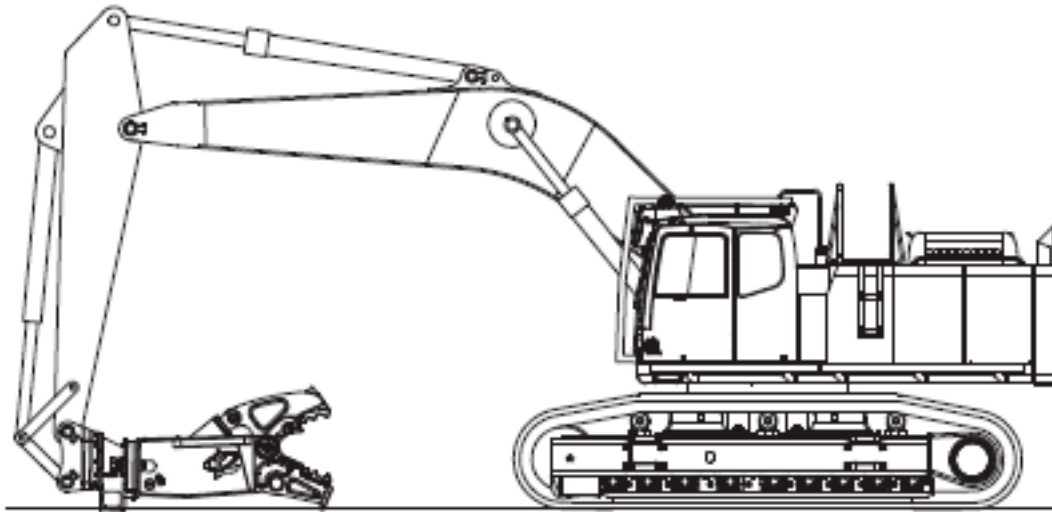

Figure 3-2
6. Carefully extend the bucket cylinder to move the bucket linkage forward far enough to position the link into the mounting bracket linkage connection (see Figure 3-2). It may be necessary to use a lifting device (overhead hoist, forklift, etc.) to correctly position the link.